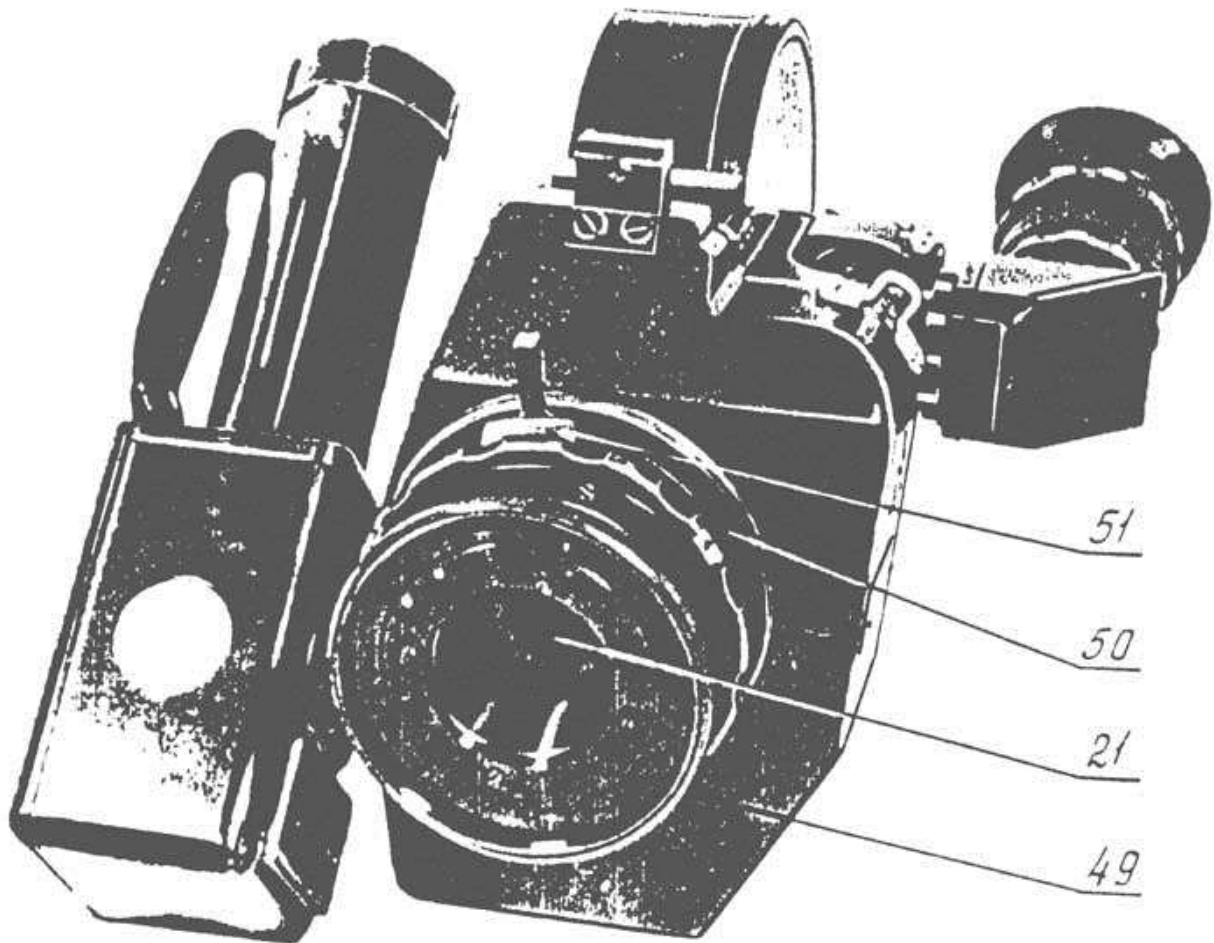

Figure 9
There is head (49) with lens mount (50) in front of the camera (figure 9). It has fast fixing bayonet lock ring (51). The head fastens to the body by means of a screws. The lens mount of the camera allows using of any lens with standard focusing mount (OCT-19).
The lens (63) (figure 1) is mounted into lens mounting (50) (figure 9).